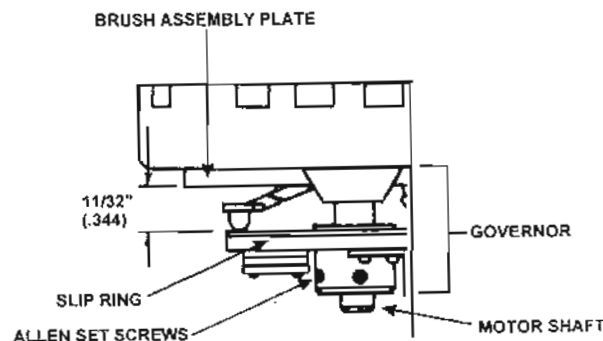

Figure 3-8. Governor brush assembly clearance.
- (1) Install the replacement brush assembly and fasten it to the motor housing by reinstalling the two hex nuts.
- (2) Reinstall the two electrical terminal connectors while following the previously recorded wire colors and connector locations.
- (3) Install the replacement governor onto the motor shaft and slightly tighten the Allen set screws.
- (4) Check for a 11/32-inch clearance between the lower brush assembly plate and the governor slip rings (fig 3-8).